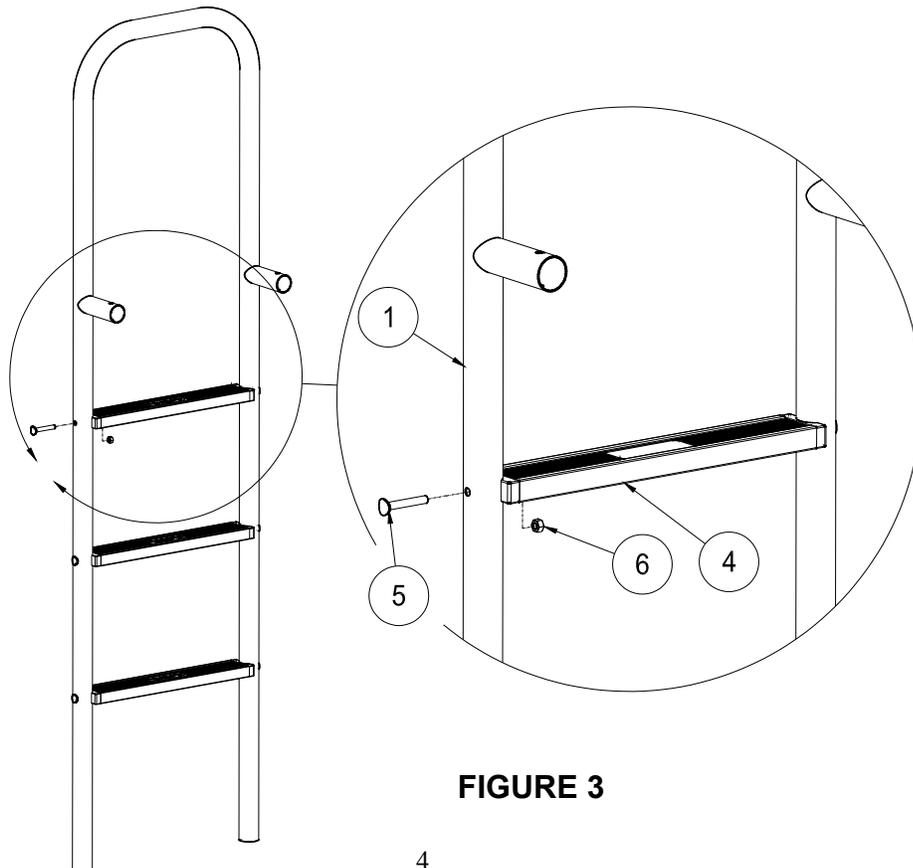

FIGURE 3
2. Place **20" Elite Tread (item 4)** onto **ILGS-205 Tread Frame, Left (item 1)** three (3) places and install **Cradle Head Bolt (item 5)** through both ends of each tread. Place **3/8" Hex Nut (item 6)** six (6) places onto Cradle Head Bolts and tighten. See **FIGURE 3** below.